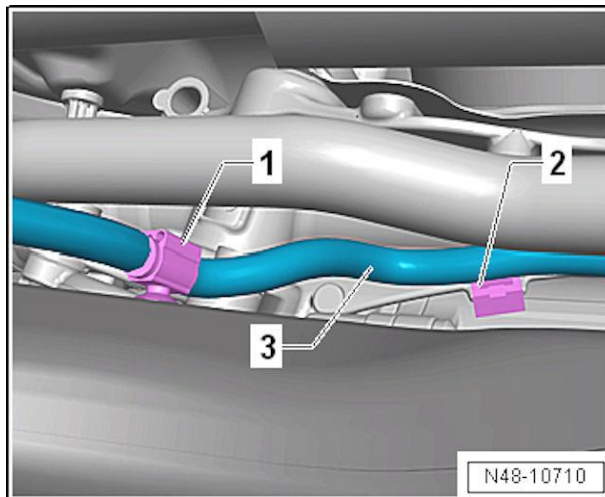

Figure 1
- Remove the clips -1 and 2- for the wiring harness -3- from the subframe and the steering gear (Figure 1).
- Reattach the clips -1 and 2- for the wiring harness -3- to the subframe and the steering gear (Figure 1).